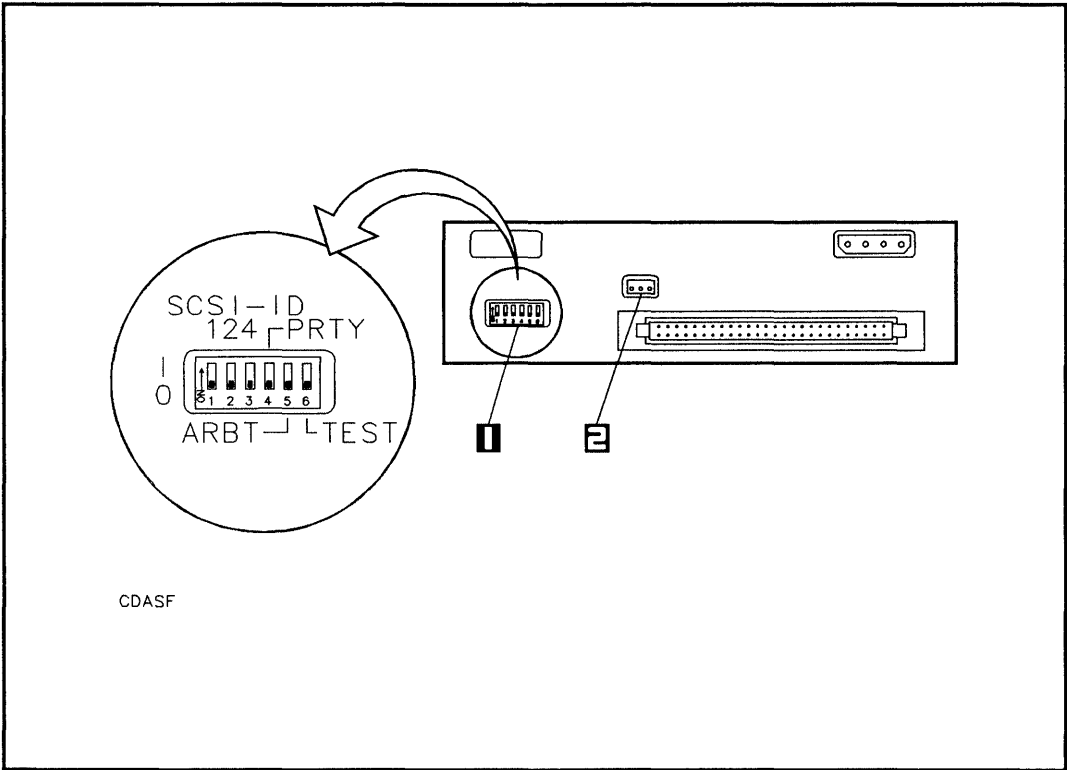

Figure 4-5. CD-ROM Drive Rear Panel Switches
The SCSI-ID switches (see Figure 4-5) enable you to select a unique SCSI address for the CD-ROM drive. The SCSI-ID switches are set to address 0 at the factory, so all of the switches should be in the down (0) position when you take the CD-ROM drive out of the anti-static bag.
2. Set the SCSI switches 1, 2, and 3 to 0 or 1 for the desired address (refer to Table 4-2 and Figure 4-5).
5. Set the SCSI switches 1, 2, and 3 to 0 or 1 for the desired address (refer to Table 4-2 and Figure 4-5).
The PRTY switch (see Figure 4-5) must be set to 1 for your CD-ROM drive to operate properly in your mass storage system. The following table shows the function of the PRTY switch for both switch positions:
The ARBT switch (see Figure 4-5) must be set to 1 for your CD-ROM drive to operate properly in your mass storage system. The following table shows the function of the ARBT switch for both switch positions:
The TEST switch (see Figure 4-5) is used to activate the continuous audio mode in your CD-ROM drive. When the continuous audio mode is activated, you can play an audio CD in your CD-ROM drive (refer to “Playing Audio Compact Discs” in this chapter). If you do *not* want to activate the continuous audio mode, set the TEST switch to 0.